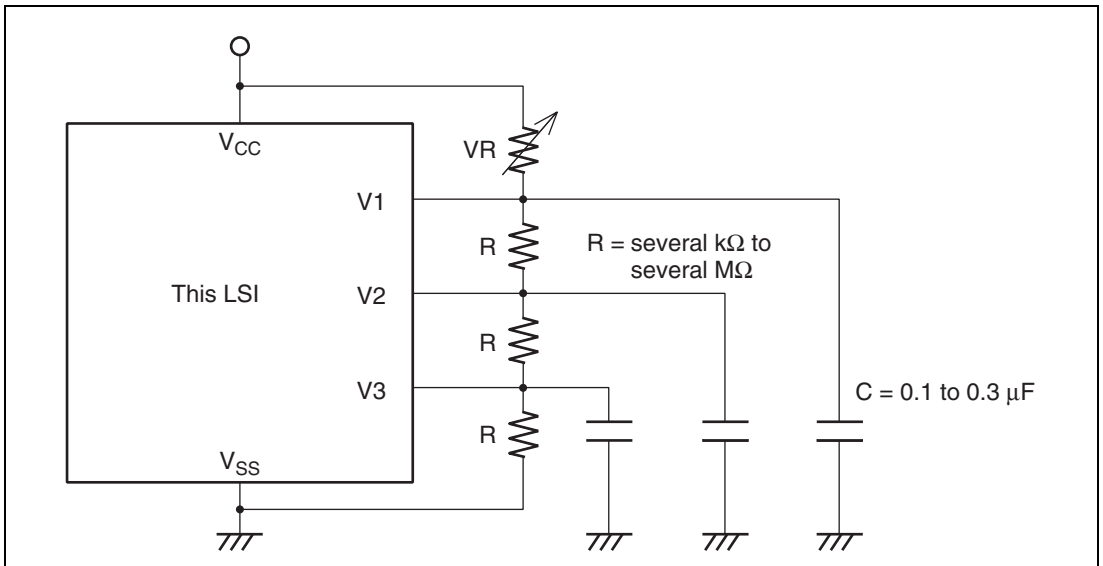

Figure 21.10 Connection of External Split Resistor
When a large panel is driven, the on-chip power supply capacity may be insufficient. In this case, the power supply impedance must be reduced. This can be done by connecting bypass capacitors of around 0.1 to 0.3 μF to pins V1 to V3, as shown in figure 21.10, or by adding a split resistor externally. The voltage on the V1 pin can further be adjusted by connecting a variable resistor (VR) between the V_{CC} and V1 pins.